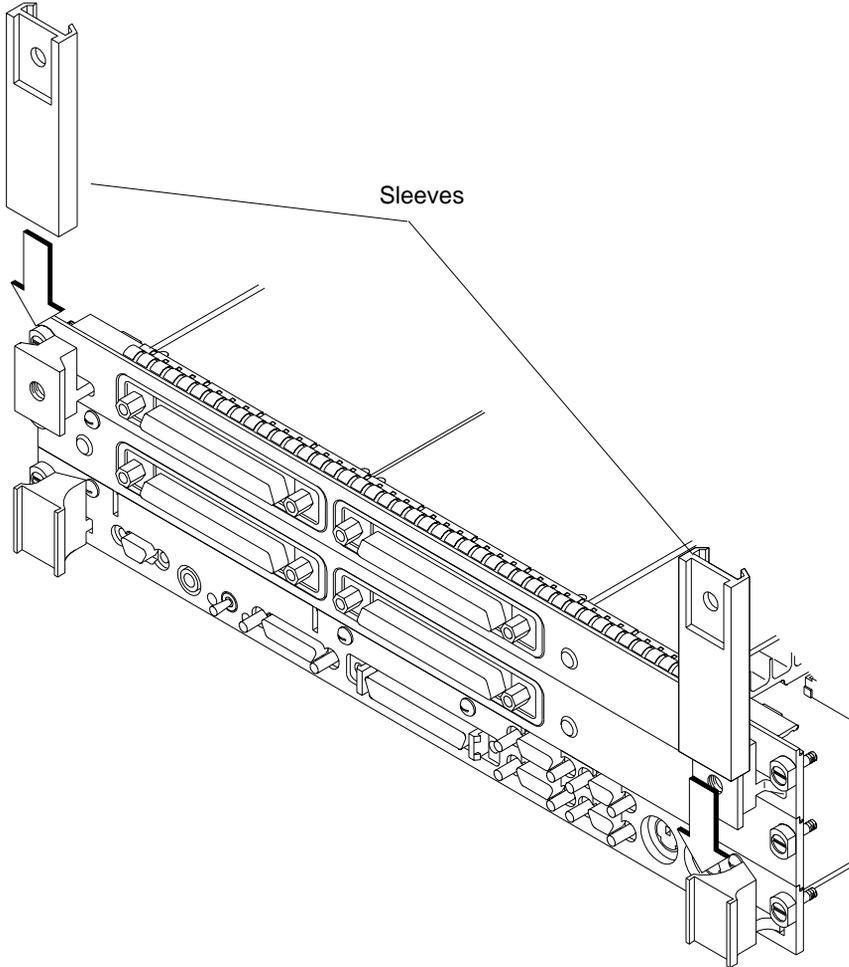

Figure 2-12 **Installing Ejector Handle Sleeves**
- b** Slide the sleeves over each set of handles, as shown in Figure 2-12.